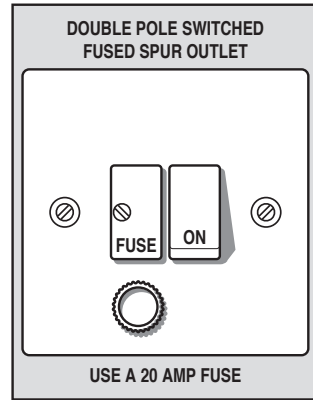
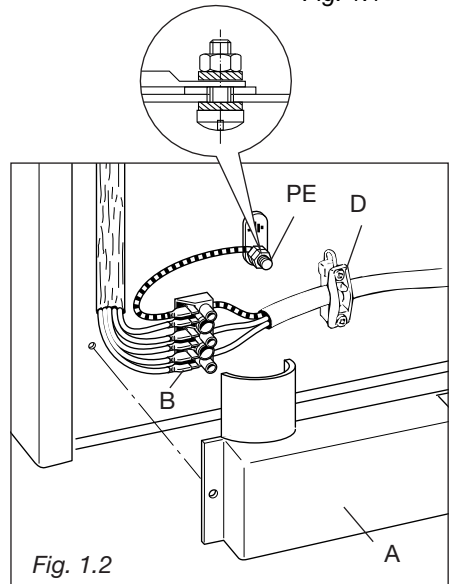

Fig. 1.1
Fig. 1.2
This appliance must be connected to a double pole isolating switch (fig. 1.1) and to the terminal block in the cooker (figs. 1.2, & 1.3) using the following guide:
- Remove the screw that hold shield “A” behind the cooker (fig. 1.2).